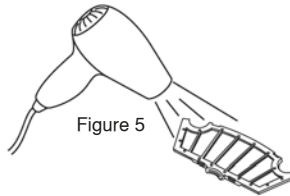
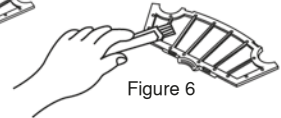

Figure 5
Figure 6
5. Clean the filter by hairdryer or dust brush (Refer to Figure 5 and Figure 6)